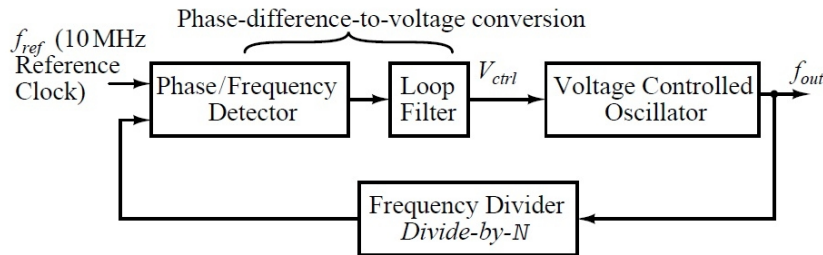

Figure 4: The block diagram of a PLL used as a frequency synthesizer.
- (b) **The Phase Locked Loop (PLL) for Frequency Synthesis:** The main function of the PLL on this board is to generate the LO signal for modulation or upconversion of the baseband signals. The input to the PLL is a fixed 10 MHz clock signal (also called the reference frequency  $f_{ref}$ ) coming from an on-board crystal oscillator. The PLL IC has a voltage controlled oscillator (VCO) followed by a configurable frequency divider of division ratio  $N$ , as shown in Fig. 4. The feedback loop in the PLL ensures that the frequency divider output phase (and hence frequency) exactly matches the reference clock phase (and frequency). The phase error is basically determined by the time difference between the rising edges of the reference clock and the frequency divider output, and should be practically zero when the PLL is locked. For a given  $f_{ref}$  and  $N$ , the VCO output frequency in a locked PLL is  $f_{out} = N f_{ref}$  (prove it yourself). The frequency division factor  $N$  is always  $> 1$ , but it is possible to achieve effectively a non-integer value of  $N$  using some tricks (discussion on these tricks is beyond the scope of this material).